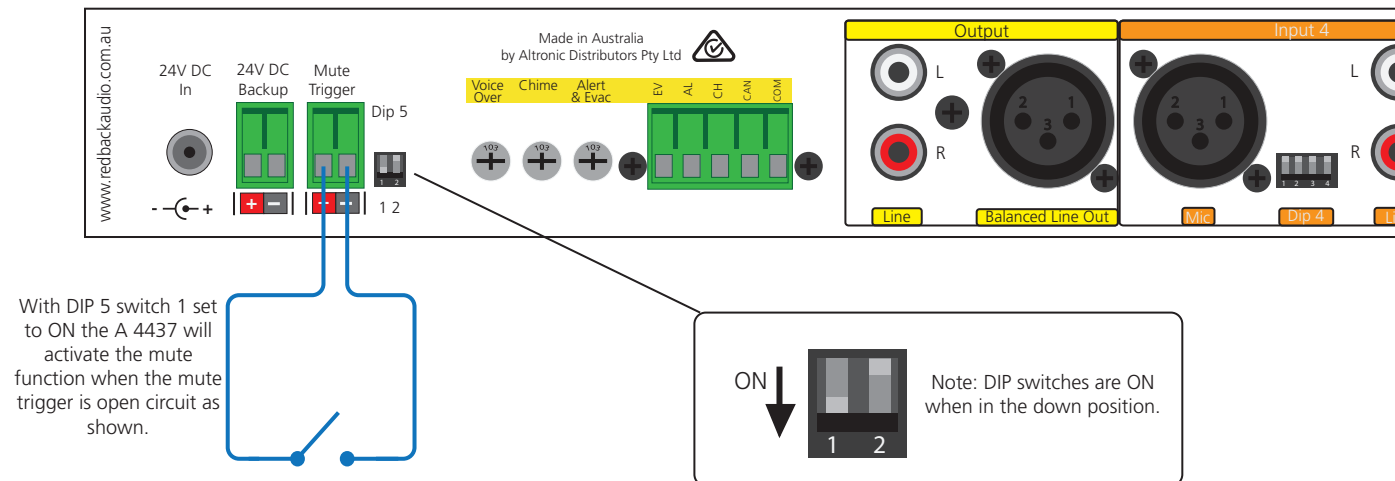

Fig 4 DIP 5 switch 1 set to ON. Mute activated by open circuit on Mute Trigger terminals.
1) The first requires the use of a closing contact on the mute contacts. This could be triggered via a building fire indicator board, break glass alarm, remote wall plates etc. With DIP5 switch 1 set to ON, any open connection on the mute contacts as shown in figure 4 will mute the output of the mixer. While the contacts are closed the mixer will operate normally.